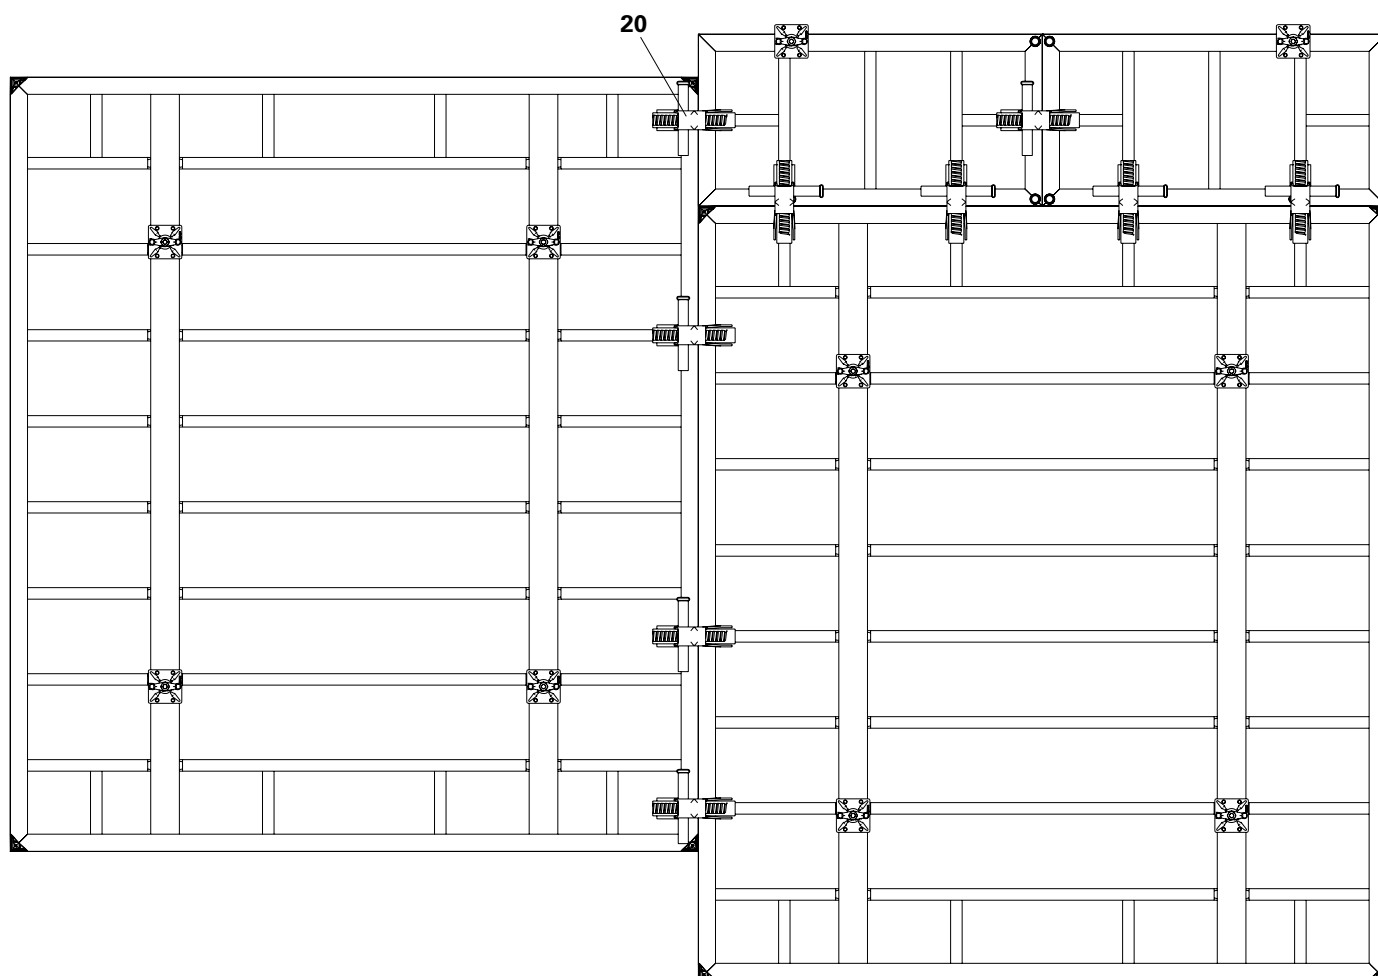

Fig. A10.05
For height offsets: depending on the offset, the Alignment Couplers BFD (20) are mounted alternately on the frame struts of the right and left panels. (Fig. A10.05)